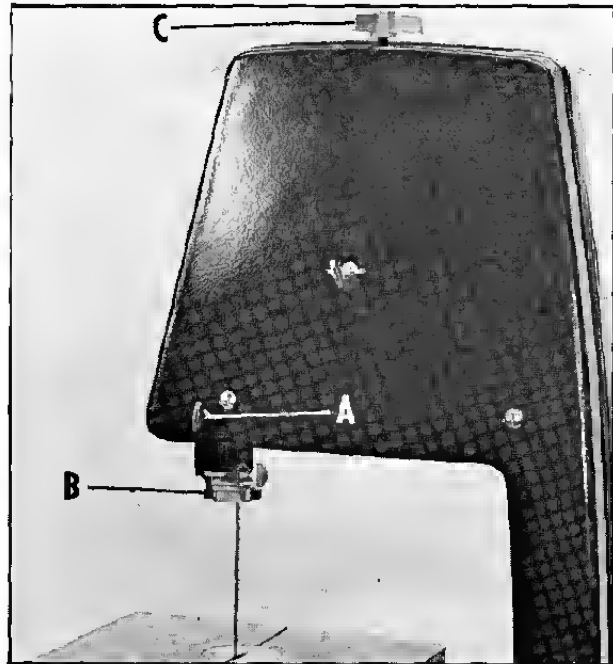

Fig. 16
1. Loosen thumb screw (A) Fig. 16, and move the upper blade guide (B), to the highest position.
2. Turn the tension adjusting screw (C) Fig. 16, clockwise to increase or counterclockwise to decrease blade tension.